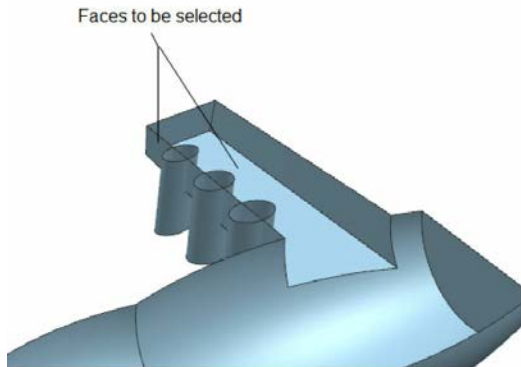

Figure 11-105 Faces to be selected
6. Select the faces of the handle, refer to Figure 11-105, and then select the **Discard** radio button from the **Region** rollout.